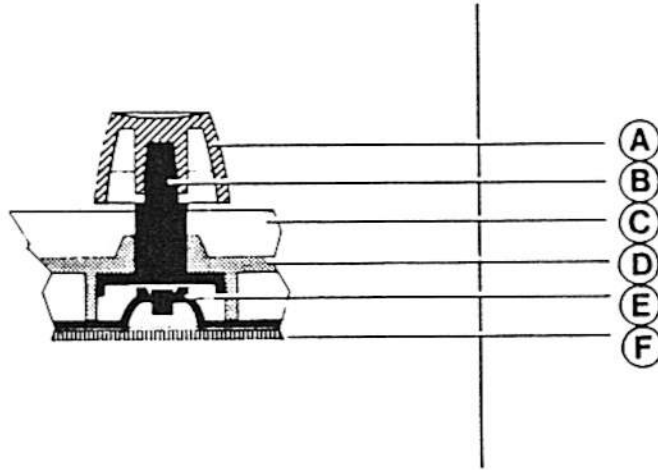

Figure 5.8 Cross Section of a Single Keytop
- (1) Figure 5.8 shows the cross section of a single Keytop.